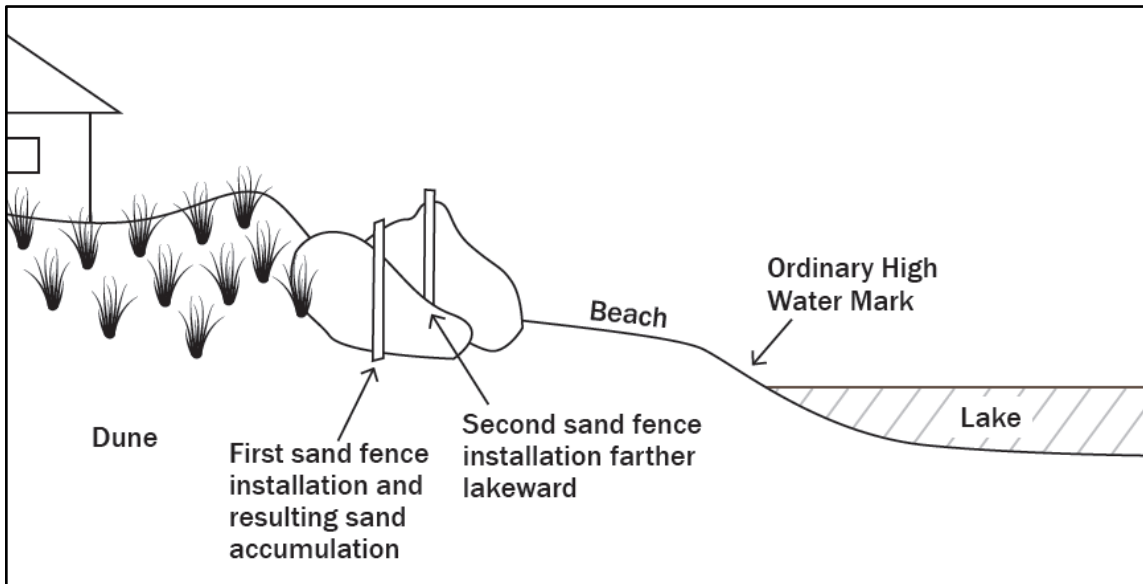

Figure 3. Using Multiple Lines of Sand Fencing to Accumulate Sand Waterward of an Eroded Dune Face. (Adapted from Massachusetts, 2016.)
- Whenever possible, select native plants with extensive root systems as part of a sand fencing project, generally on the landward side of the fencing. These plants are extremely effective at holding sediment in place and help to stabilize windblown sand accumulated by sand fencing. For more information on plant species and planting methods, refer to the “Revegetation/Planting Guide” below. As shown in Figure 3, when sand builds up and buries the fencing to approximately two-thirds of its original height, an additional row of sand fencing can be installed to continue to help the dune grow (if there is sufficient space available landward of the OHWM).